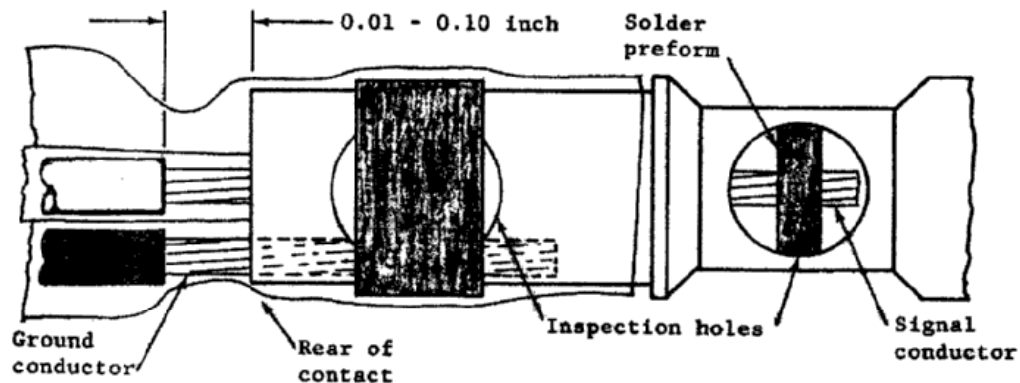

Figure 5-12
4. Inspect the wires for proper positioning inside the SolderTacts contact (Figure 5-12).